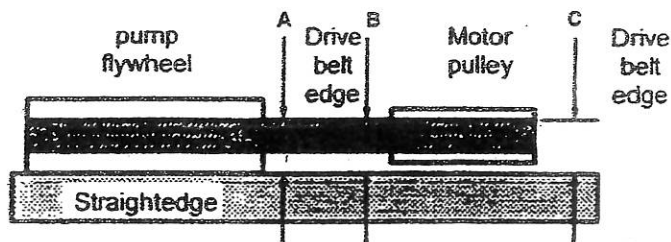

Figure 3. Checking pulley alignment
WARNING! Before doing any repair work on the unit, be certain the starting switch is in the OFF position and/or the electrical power is disconnected to prevent the unit from accidentally starting. Release air pressure by pulling the ring on the relief valve located on the air receiver. These simple precautions will prevent accidents. Check the pulley by placing a straightedge against the compressor flywheel (see figure 3). Measure the distance from the straightedge and the center of the drive belt groove at points A, B and C. The distance should be the same at all three points. If any of the three measurements varies, there is a misalignment which must be corrected before the compressor is run. To correct a belt misalignment, use the following procedure:
4. Align the motor pulley with the compressor flywheel (see figure 3).